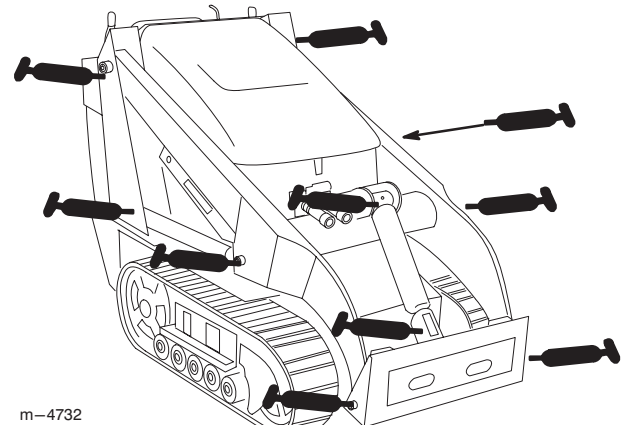

Figure 40
3. Connect a grease gun to each fitting (Fig 40 and 41).